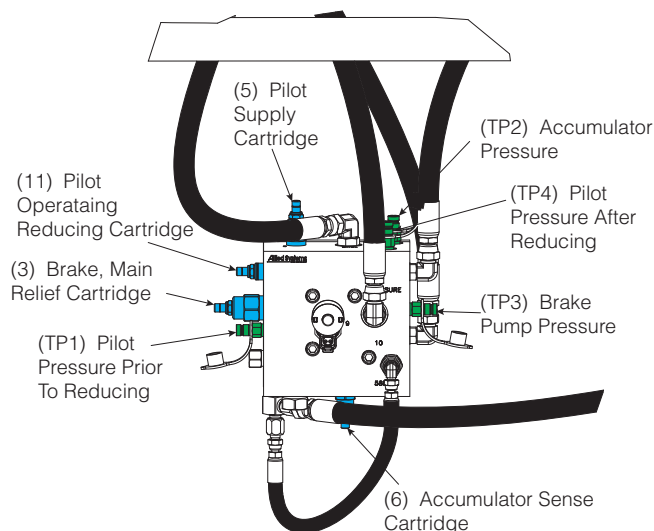

Figure 5 - Accumulator Charge Manifold
9. Engine ON, temporarily set (5) pilot supply cartridge to 550-750 psi (see Figure 5).
10. Engine OFF, attach pressure gauge at TP4 (see Figure 5).
11. Engine ON, set (11) Pilot Operating reducing cartridge to 450 +/- 25 psi.
1. Engine OFF, attach pressure gauge at TP2, accumulator circuit (see Figure 5).
3. Open one needle valve on brake manifold, commonly located in the differential compartment of the chassis (see Figure 5).